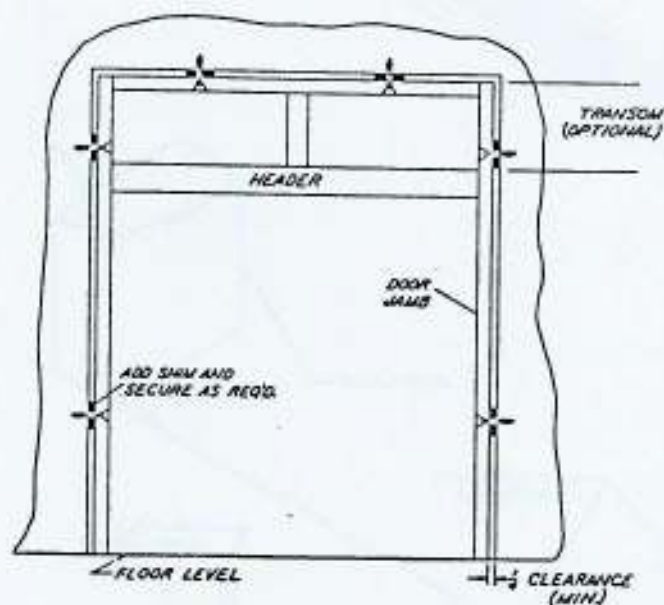

FIG. 8 Securing door frame.
1. After raising the assembled door frame, position it in the provided opening. There should be a minimum clearance of  $\frac{1}{4}$  inch around the top and sides as shown in FIG. 8.